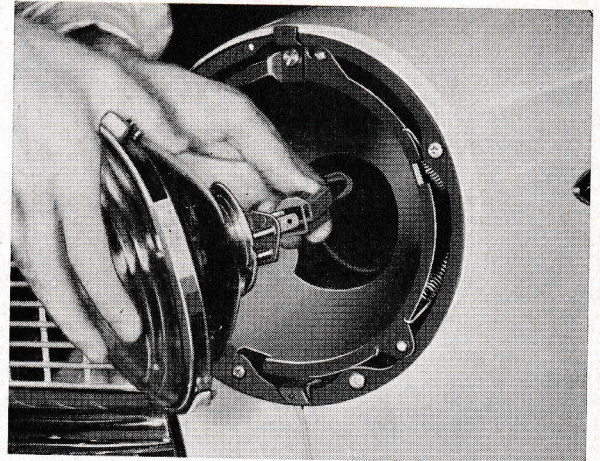

Fig. 67. Removing the connecting contact.
3. Remove the connecting contact from the bulb holder by pulling it straight out as shown in Fig. 67.